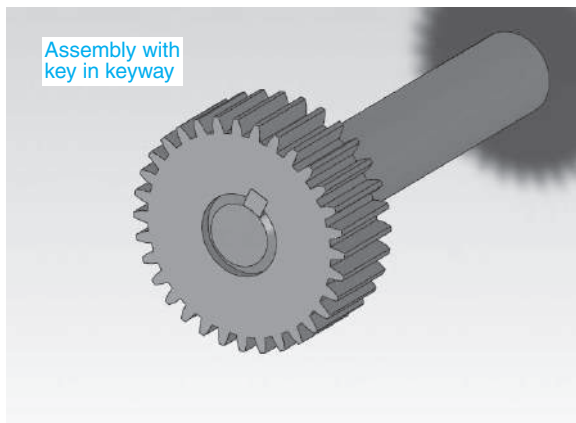

Figure 10-41
- 4 Assemble the parts as shown. See Figures 10-41 and 10-42.